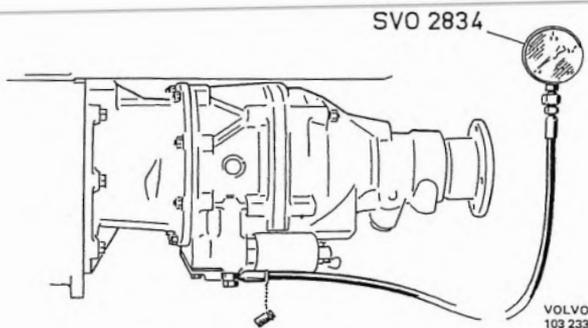

Fig. 4-35. Checking oil pressure
1. Remove the plug under the operating valve and connect the pressure gauge 2834, see Fig. 4-35.